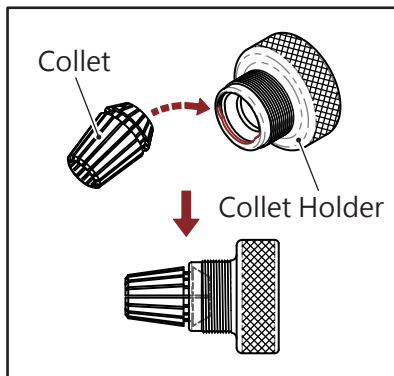

Fig. 6-1
4. Put the collet into collet holder by 45° angle. (Fig. 6-1)